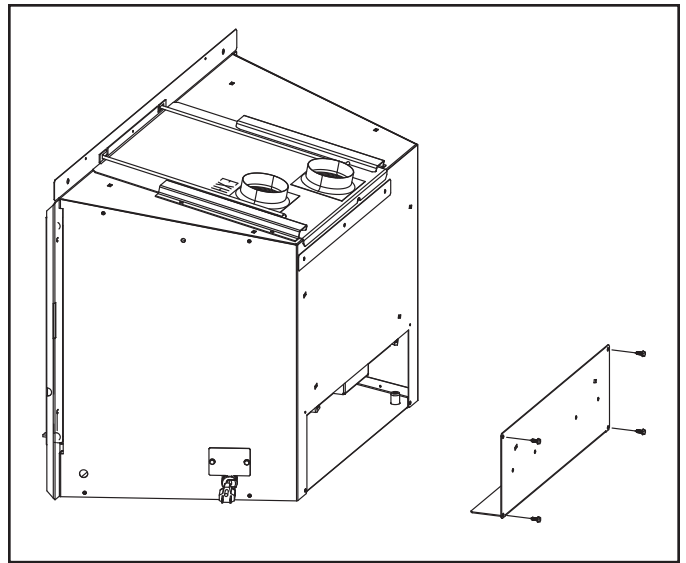

Figure 4. Remove Access Cover
3. Remove access panel by removing four screws. See Figure 4.